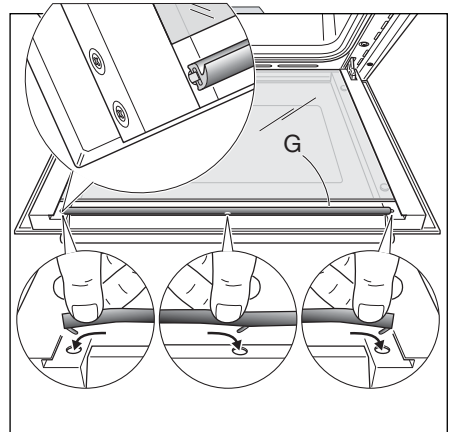

Fig.56d
- Replace the seal "G" by hooking in the three fixing hooks. Make sure that you put it in the correct way. (Fig. 56d)\*.